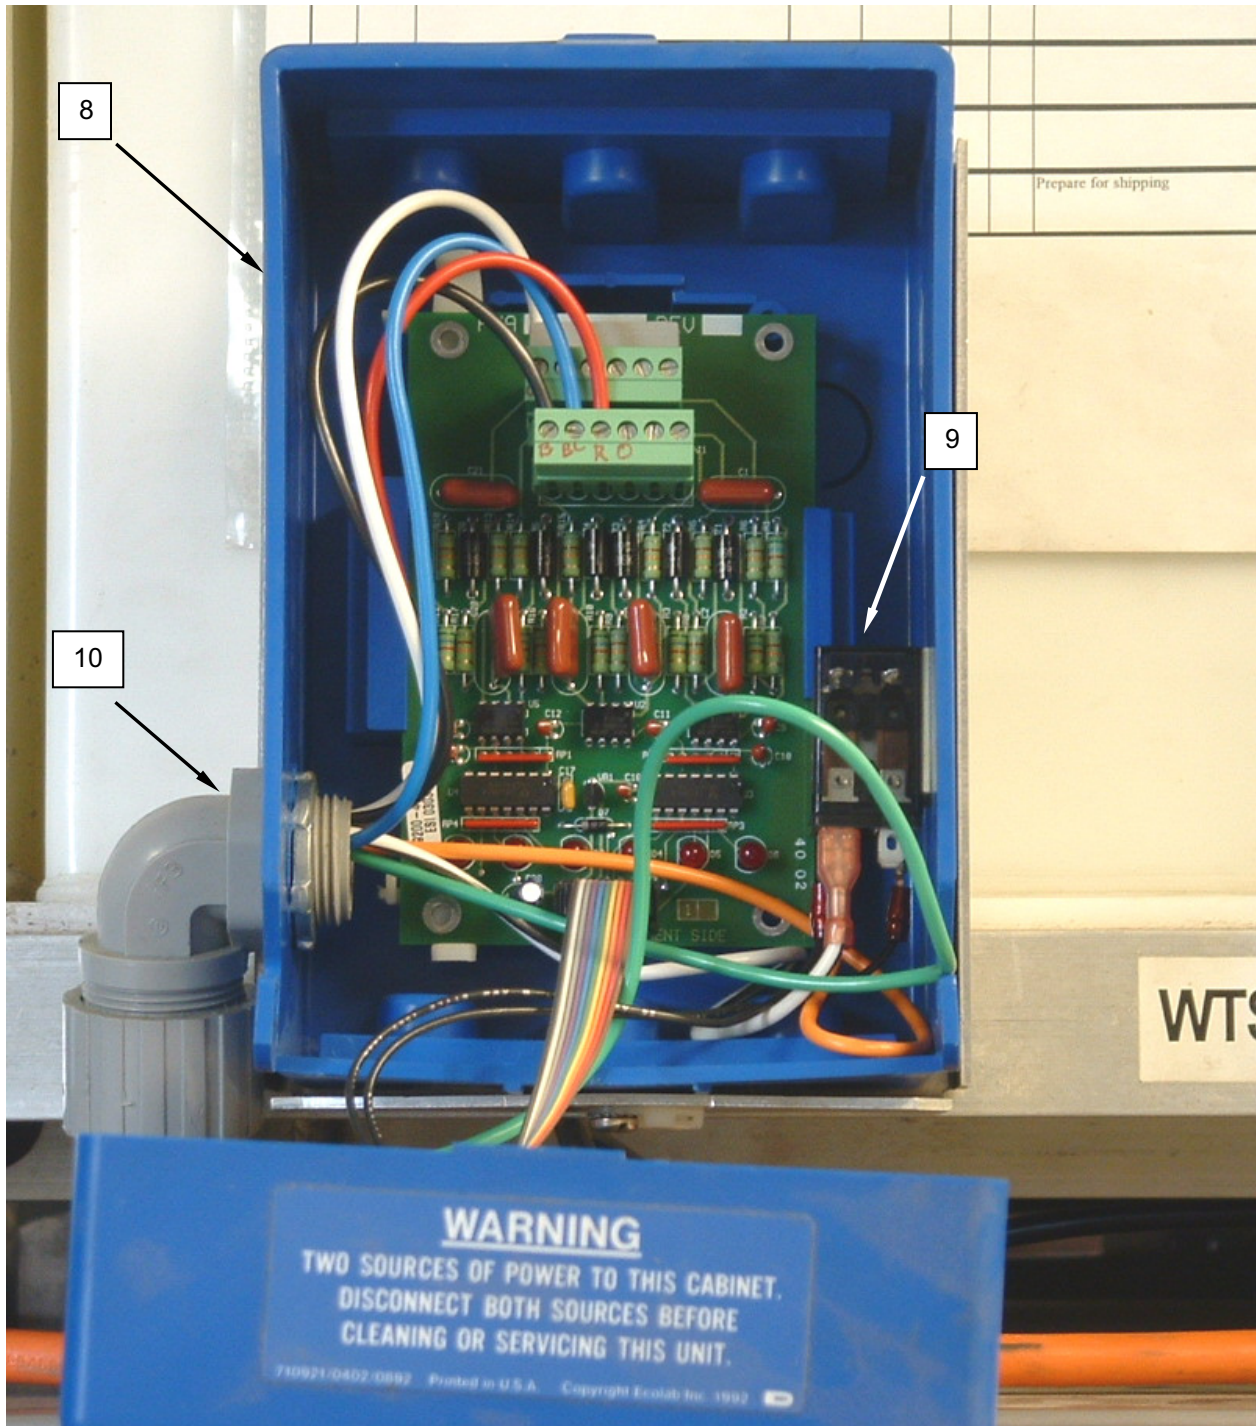

Figure 7. Replace the Automatic Soap Dispenser Control Module.
2. Open control module box (**Figure 7, Item 8**).
3. Tag and disconnect wiring from control module (**Figure 7, Item 8**).
4. Remove chart stop relay (**Figure 7, Item 9**) and retain for installation in replacement control module.
5. Remove conduit locknut, and remove conduit (**Figure 7, Item 10**) from box.
6. Remove fasteners retaining box to mount and remove control module (**Figure 7, Item 8**).
7. Open replacement control module (**Figure 7, Item 8**).
8. Install chart stop relay (**Figure 7, Item 9**) in replacement control module (**Figure 7, Item 8**).
9. Install replacement control module (**Figure 7, Item 8**) and retain with fasteners.
10. Install conduit (**Figure 7, Item 10**) and retain with locknut.
12. Close control module (**Figure 7, Item 8**), connect power, and monitor for normal operation.